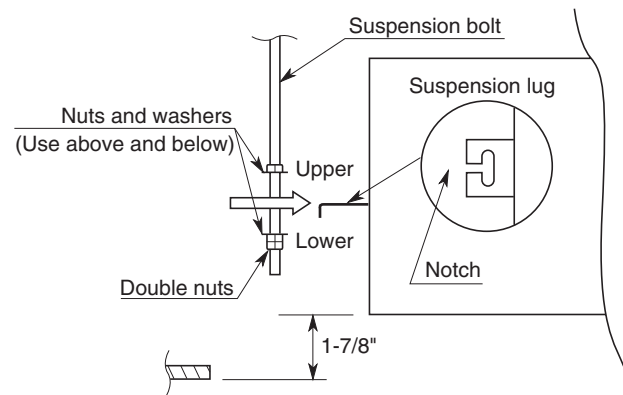

Fig. 1-16
- (3) Thread the 2 hexagonal nuts (field supply) and washers onto the 4 suspension bolts as shown in Fig. 1-16.